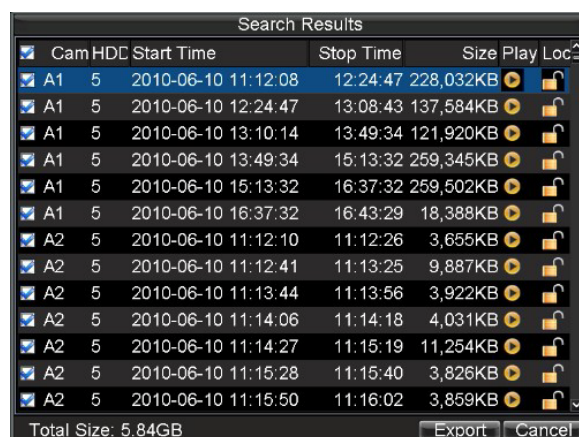

Figure 2. Video Search Results
4. Select the files to export, as shown in Figure 2. You may also click the Play icon to verify that these files are indeed the ones you would like to export.